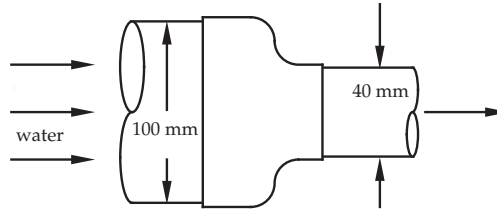

FIGURE P2.28, P2.29.
28. Figure P2.28 shows a reducing bushing. A liquid leaves the bushing at a velocity of 4 m/s. Calculate the inlet velocity. What effect does the fluid density have?